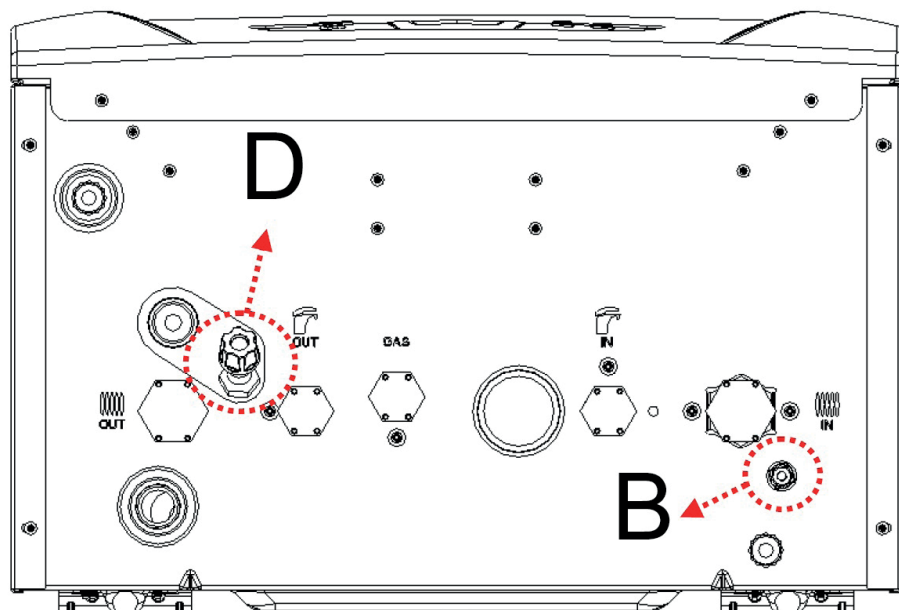

Figure 2. Bottom view of Seradens Super combi boiler
Pressure sensor is included in Seradens Super combi boilers. After all connections (electric, fittings and flue) are completed, system could be filled by means of filling tap (F) which is positioned at left-bottom side of the boiler (Figure 2). Before filling the system, press user info key (2) for 2 seconds and see i00 symbol and pressure value alternately on the screen. Filling operation must last until "b1.2" value is displayed on the screen. If the user info menu is closed before the intended value is reached (it is closed after 30 seconds), enter the user info menu again by pressing key (2) for 2 seconds in order to be sure of that sufficient amount of water is filled to the system.
If the water pressure falls down under a certain value, E04 error is seen on the screen. In order to increase the pressure value, open the filling tap (F) in Figure 2. Check the pressure value from the screen to avoid filling the system excessively. Keep filling the system until the pressure reaches 1.2 bar, then close the filling tap.
Excessive filling of the heating system leads to E47 error, this is a precaution to avoid uncontrolled discharge of excess water from 3 bar safety valve. If you see E47 error on the screen due to excess pressure, discharge the proper amount of water by means of drainage tap (D) (Figure 2) or follow the instructions given in “Water Pressure Errors” in Section 2.10.